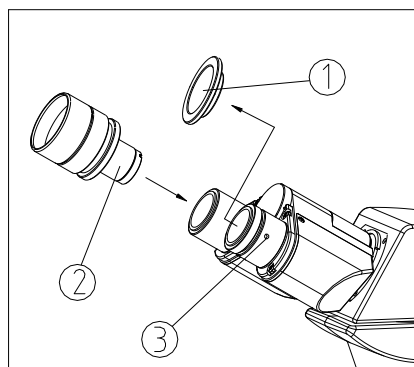

Fig.5
1. Take down the cover of eyepiece tube ①.
2. Insert the eyepiece ② into the eyepiece tube, until it touches the surface.
3. Tighten eyepiece with M2.5 inner hexagon lock-screw ③ (see Fig.5).